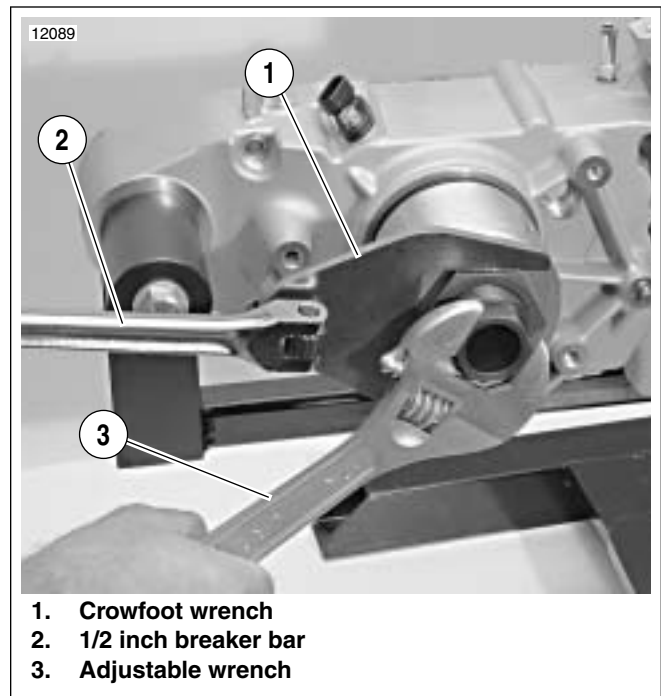

Figure 6-82. Press Seal Into Crankcase
7. See Figure 6-82. Place crowfoot wrench (Part No. HD-47856-7) (1) with 1/2 inch drive breaker bar (2) on large nut. Place an adjustable wrench (3) on flats of hex head cast into end of adapter.